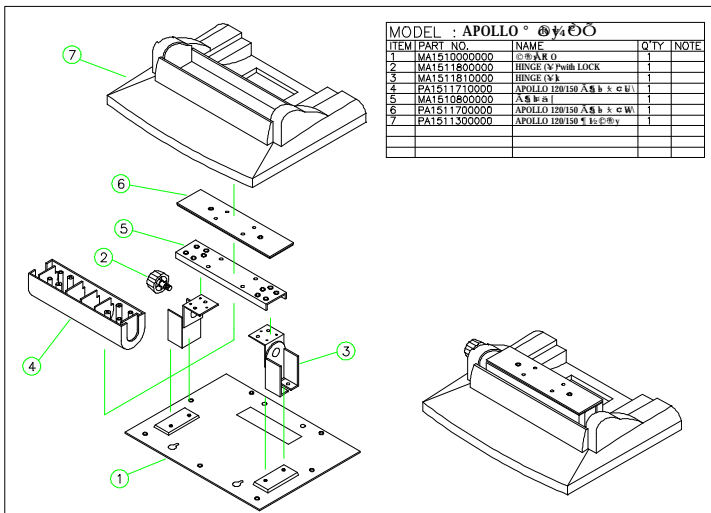

FIGURE 5-13: APOLLO PEDESTAL ASSEMBLY
1. Refer to Fig. 5-13. Fix the two hinges to the hinge bracket (5). Then fix the unit to the metal base (1). *Please note that the two hinges are different.* The right side is used to fix the hinge knob. Note that there are two avocado-shape holes on the metal base. The two avocado holes are used to fix the stand to the table for special application.
2. Insert the stand bottom cover (4) to the hinge module and fix them together with four FMS 3*6 screws.
3. Fix the plastic upper cover (6) to the hinge bracket with 2 screws.
4. Insert the whole base unit to the base plastic cover (7) and fix them together with screws to make the complete unit a pedestal.
5. Insert the hinge knob (2) to the pedestal.